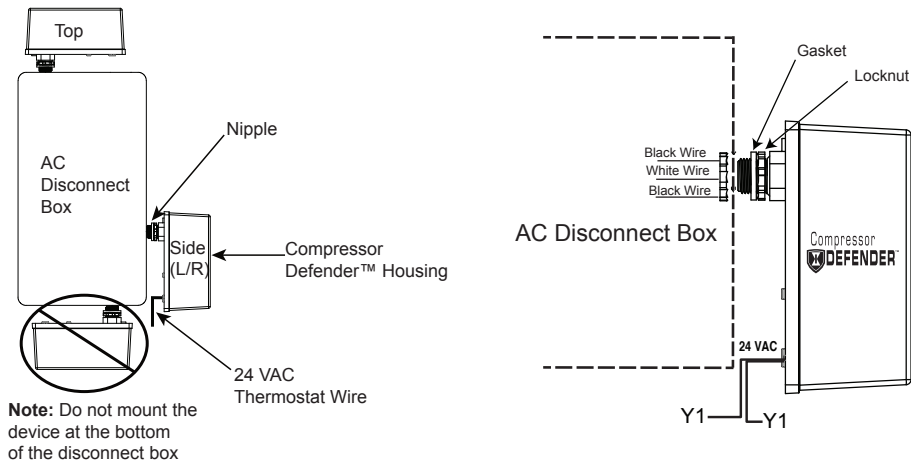

Figure 1. Installing Compressor Defender™ to AC Disconnect Box.
2. Mount the *Compressor Defender*™ making sure the 24 VAC wire is mounted below the nipple. See Figure 1.